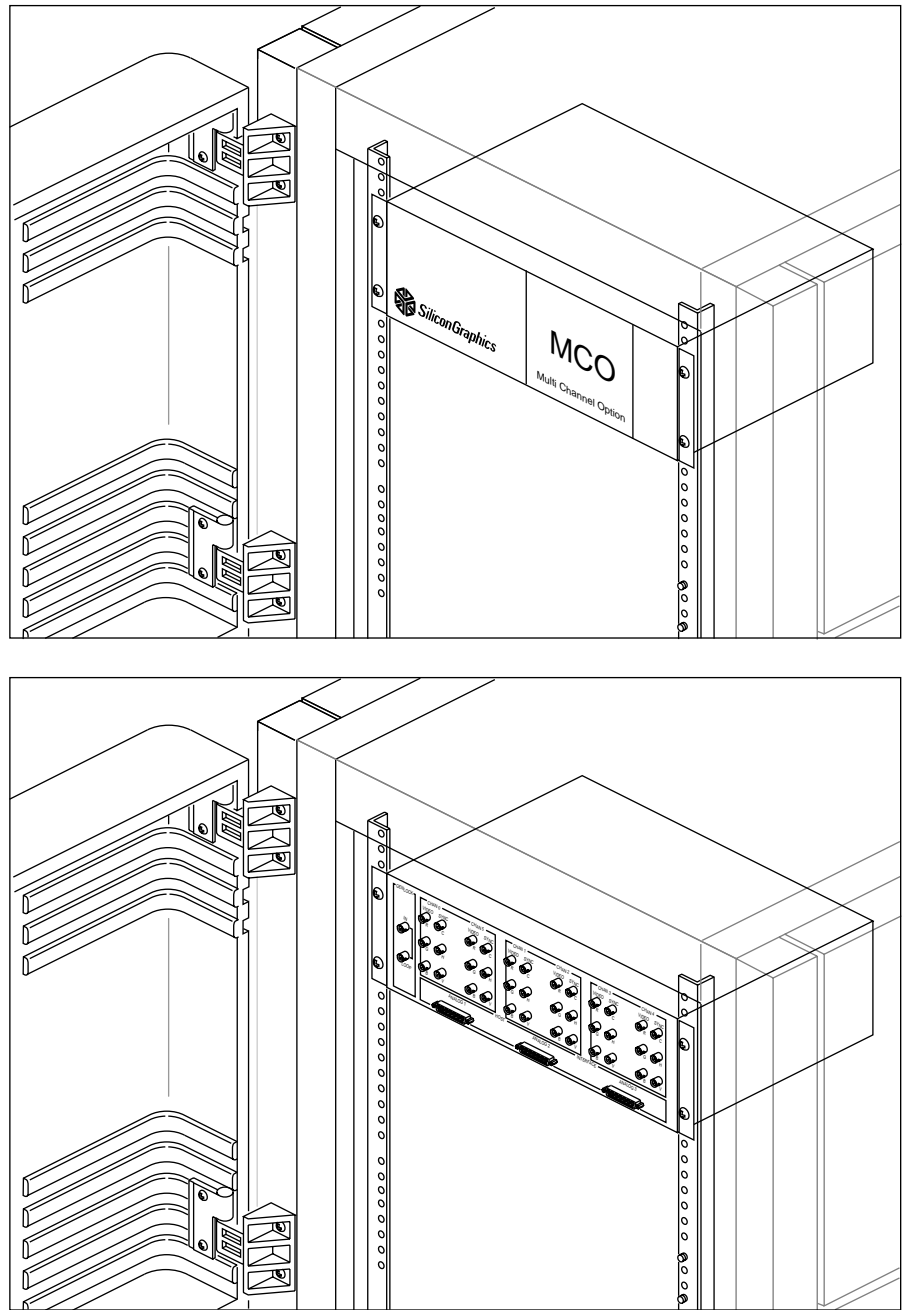

Figure 3-14 Breakout box in Customer Rack, Front and Rear Views
1. If the customer desires, mount the breakout box in the customer's rack, using the flanges and screws included with the breakout box. The breakout box can be mounted with its panel facing either direction, as shown in Figure 3-14.